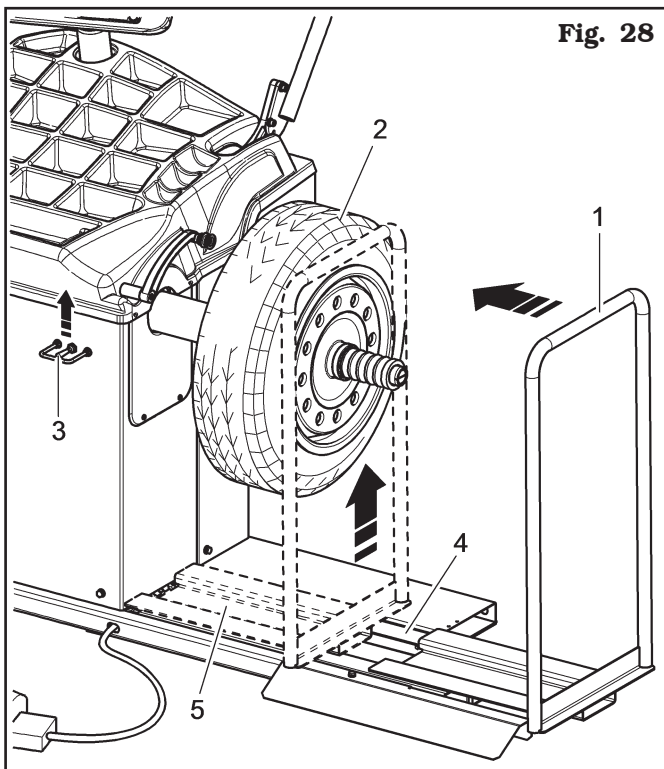

Fig. 28
1. Move leftwards the wheel support (**Fig. 28 ref. 1**) and bring the wheel support plane (**Fig. 28 ref. 5**) under the tyre (**Fig. 28 ref. 2**).
2. Lift the lifting device control (**Fig. 28 ref. 3**) and lift the footboard (**Fig. 28 ref. 4**) until the wheel bearing (**Fig. 28 ref. 5**) comes in contact with the tyre (**Fig. 28 ref. 2**).